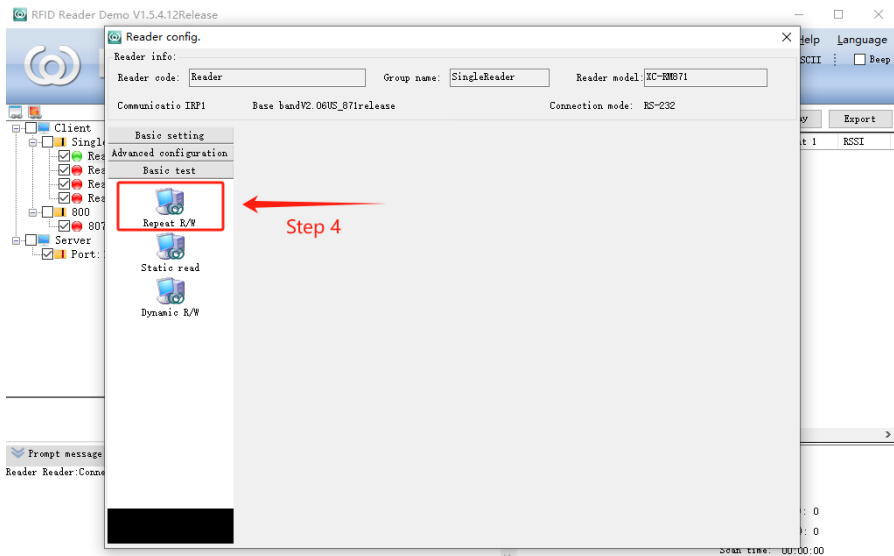

Figure 5-16 Write Tags Diagram 4
- 4) As shown in Figure 5-16, select “Repeat R/W”;